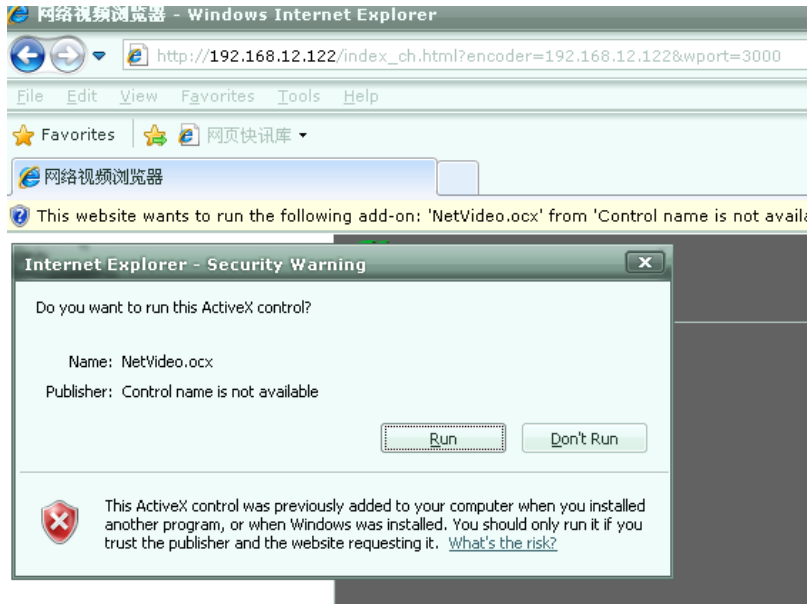

Fig. 5.5
2.Open IE8, and then log on. Please operate the ActiveX when it shows safety warning as figure 5.5.